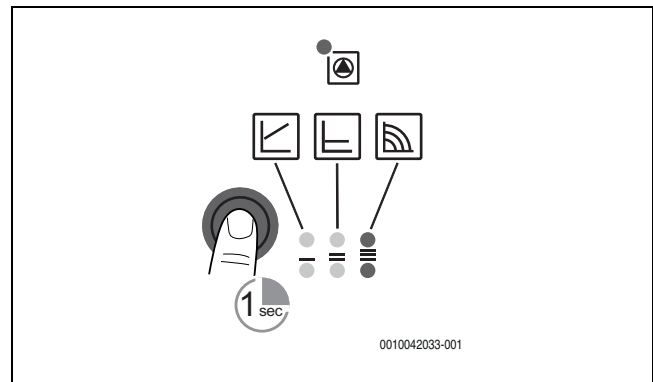

Fig. 36 Setting the control mode
- Press the operating button (→ fig. 36) briefly (approx. 1 second).